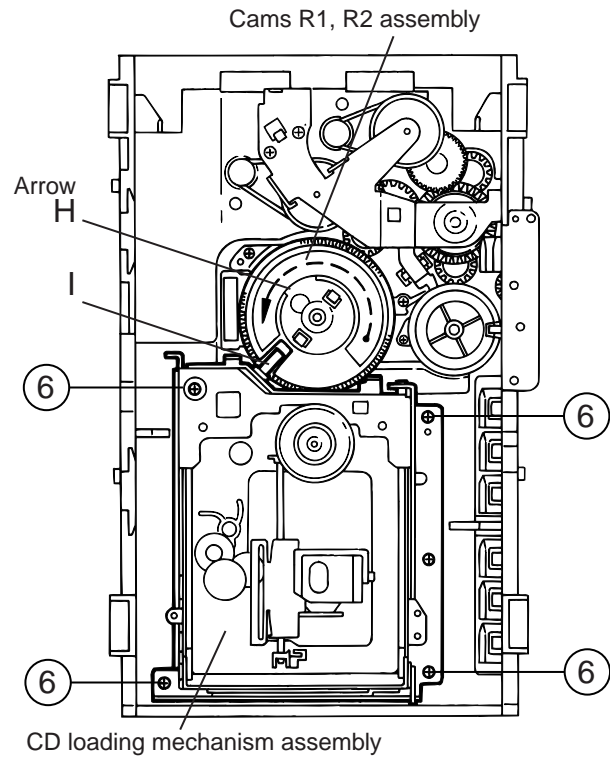

Fig.10
**■ Removing the CD loading mechanism assembly(See Fig.10)**
1. While turning the cams R1 and R2 assembly in the arrow direction “H” , align the shaft “I” of the CD loading mechanism assembly to the position shown in 2. Fig.10.